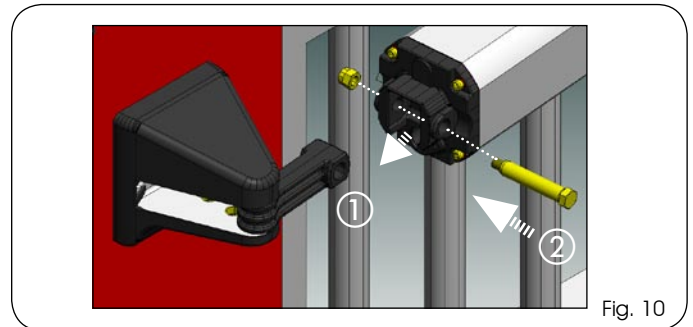

Fig. 10
5. Assemble the operator and the rear bracket by means of the pin and nut supplied (Fig. 10 re. ① - ②).